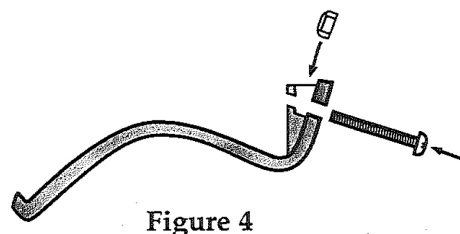
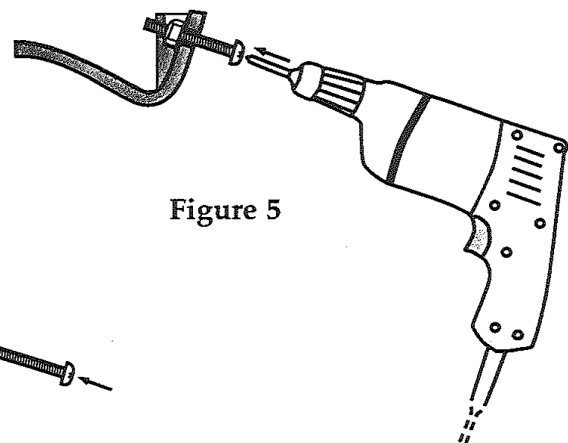

Figure 4
Figure 5
- Place the stop nut in the pocket as shown in figure 4. Start screw through outside hole, through stop nut contained in the pocket, and slightly beyond the interior hole (see figure 5).